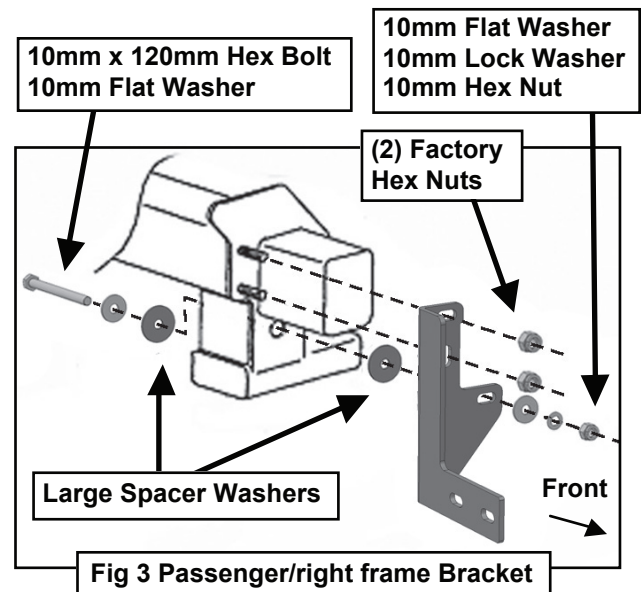

Fig 3 Passenger/right frame Bracket
Select the passenger side Frame Bracket, (Fig 3). Slide the Bracket over the (2) studs. Use the factory hex nuts to attach the Bracket to the studs, (Figs 3-4). Leave hardware loose.
Slide (1) Large Spacer Washer between the Mounting Bracket and the frame cross member, (Figs 3, 5-6). Insert (1) 10mm x 120 mm Hex Bolt with (1) 10mm Flat Washer and (1) Large Spacer Washer into and through the hole in the back of the cross member. Make sure the Spacer Washer is against the cross member
covering the large hole, (Figs 3 & 7). Push the long bolt through the outer Spacer Washer and Frame Bracket. Attach the Bracket to the Bolt with (1) 10mm Flat Washer, (1) 10mm Lock Washer and (1) 10mm Hex Nut, (Figs 3 & 8). Leave hardware loose at this time.